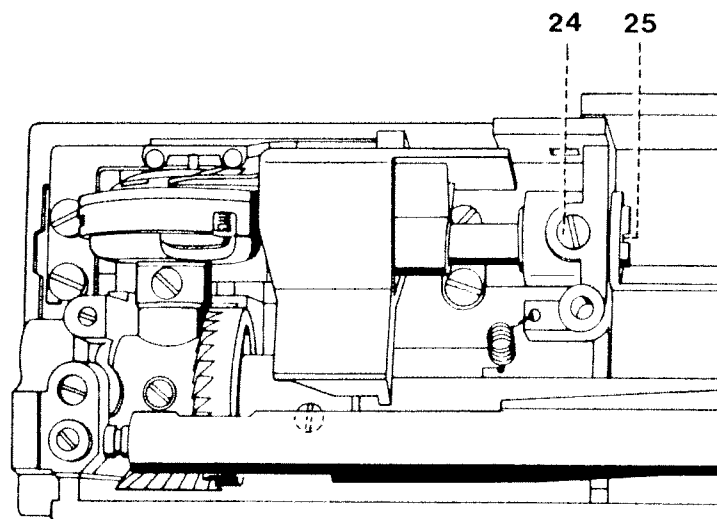

Fig. 4c
- Loosen screw 24 only by  $\frac{1}{8}$  of a turn (Fig. 4c).
- Tighten screw 24 (Fig. 4c).